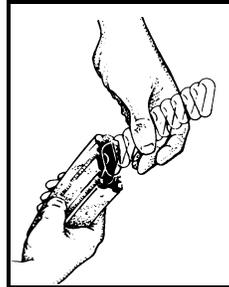

Figure 5-70. Removing the Magazine Spring and the Follower
- c. Remove the spring and follower by jiggling spring and follower (figure 5-70).